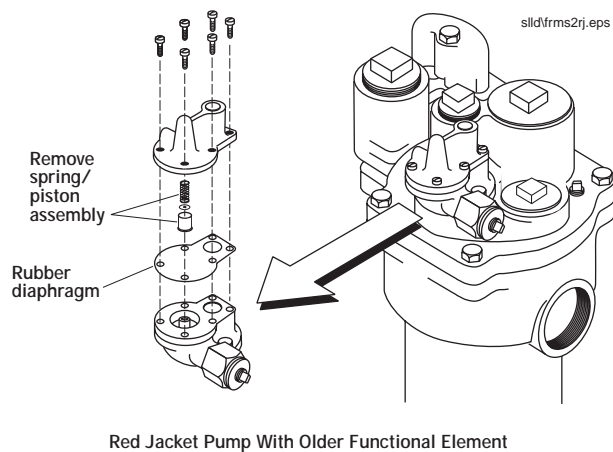

Figure 1. Disabling the Functional Element
1. Remove the six slot-head screws from the functional element [Figure 1 on page 4].